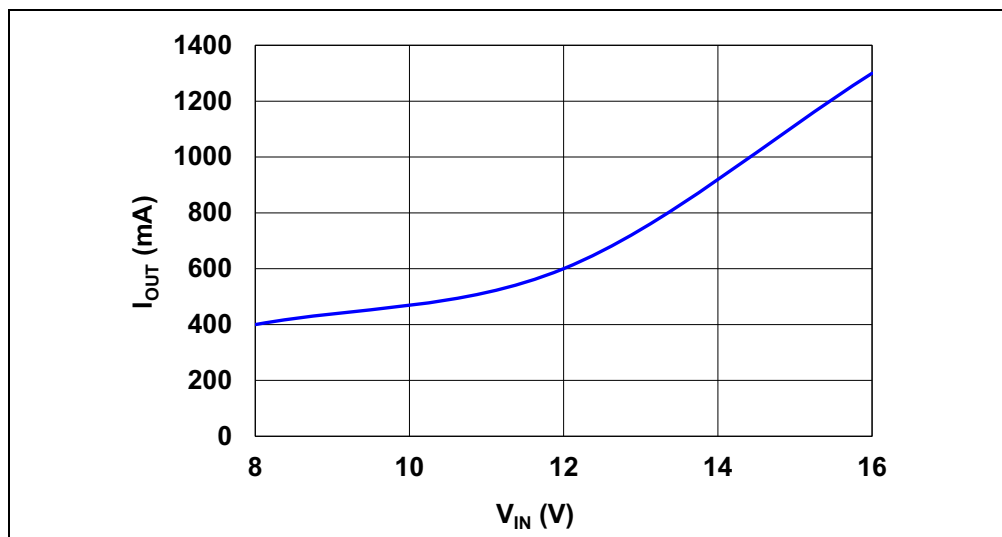

FIGURE 2-8: MCP16311/2 High Efficiency Buck-Boost Converter Reference Design Maximum Output Current vs. Input Voltage
Note: Do not exceed 30V on the input voltage and the maximum load, depending on the input voltage, as shown in Figure 2-8.
10. Sweep the output load while not exceeding the values displayed in Figure 2-8.
The maximum output current versus the input voltage graph is shown in Figure 2-8 and it is recommended that it be considered when testing the board and increasing the load, to avoid triggering current limit protection.